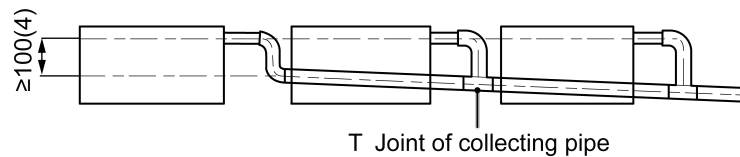

Fig.4.3.4
- (4) When connecting several drain pipes, follow the instruction as indicated in Fig.4.3.4. Choose the drain collecting pipe that matches with unit capacity.